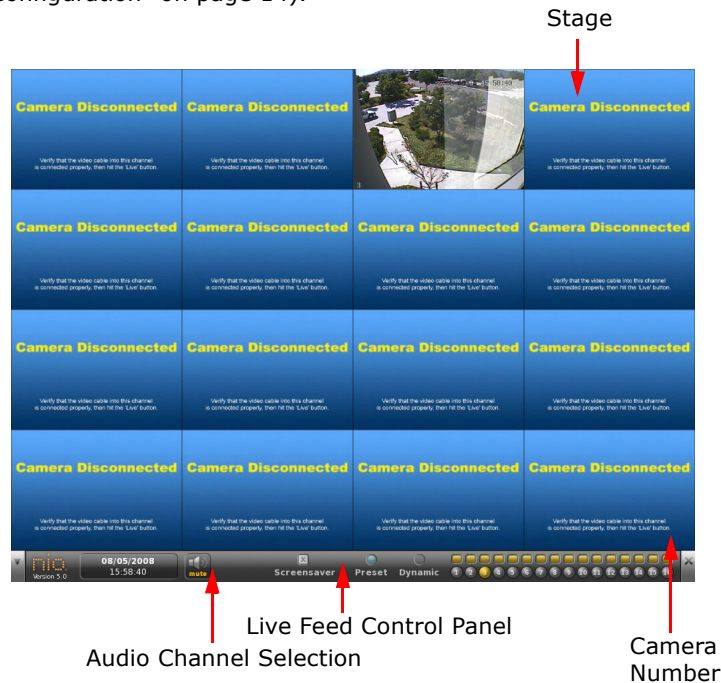

Figure 9. Live Feed Display
2. A live feed will automatically begin with detected cameras, as shown in Figure 9. By default, the DVR is setup to accept NTSC cameras. If the camera type needs to be changed, please visit the Cameras menu (See "Camera Configuration" on page 14).